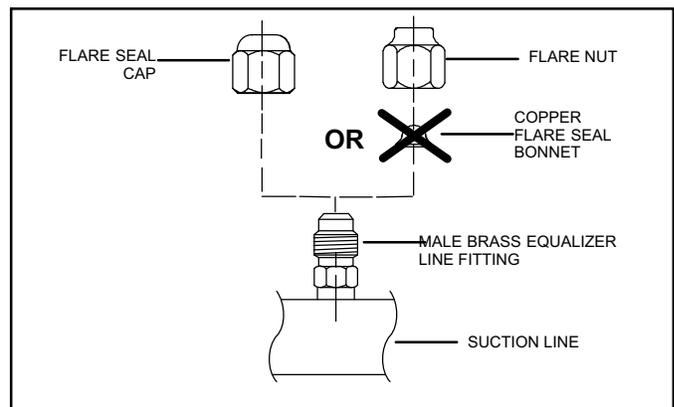

Figure 24. Copper Flare Seal Bonnet Removal
7. Remove and discard either the flare seal cap or flare nut with copper flare seal bonnet from the equalizer line port on the suction line as illustrated in figure 24.